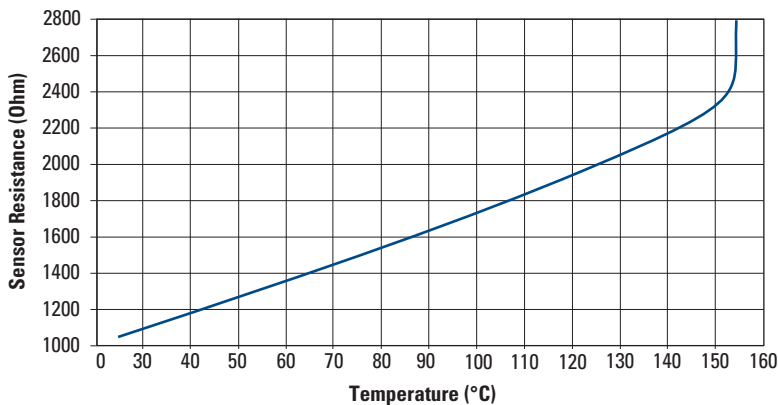

Figure 1-1: AKMH Thermal Sensor graph
- Sensor is defined by Figure 1-1.